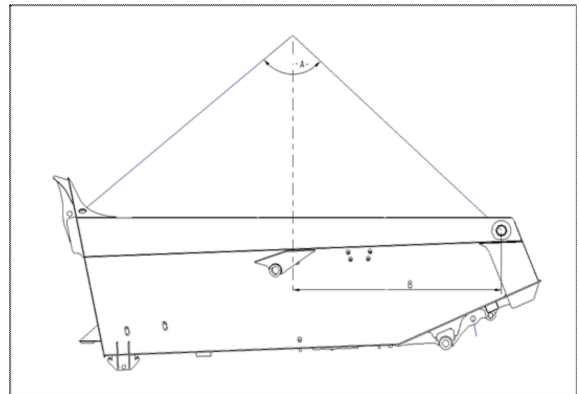

Figure 1
2. Use a four element sling and attach the individual elements to the bin lifting points as shown in Figure 1. Lifting equipment may **ONLY** be attached to the positions indicated. **NEVER** exceed the maximum rigging angles indicated in Table 1.